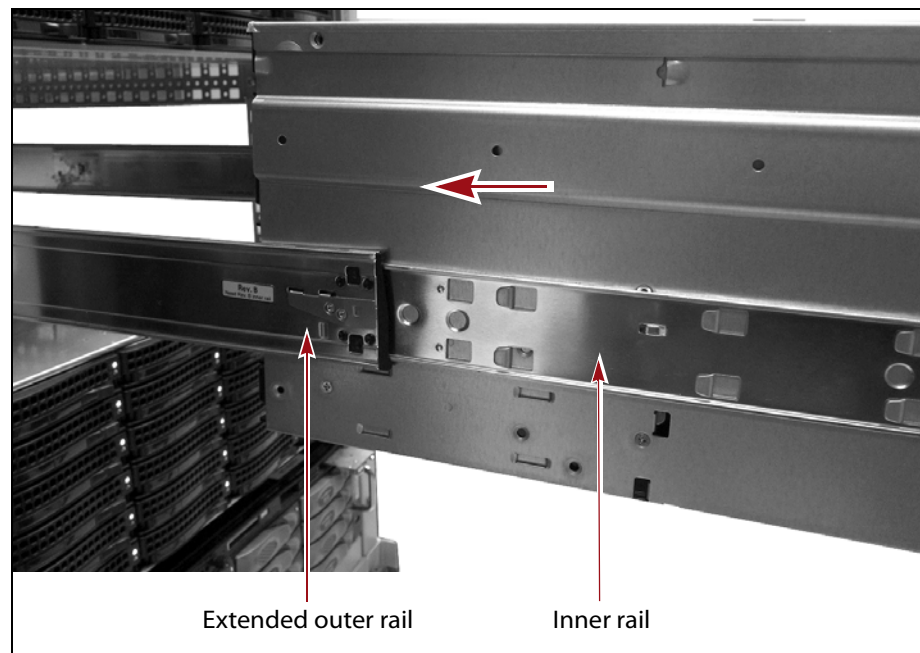

Figure 21 Extend the outer rails and slide the chassis into rack.
1. Pull the center section of the outer rails out of the rack until they are fully extended (see Figure 21).